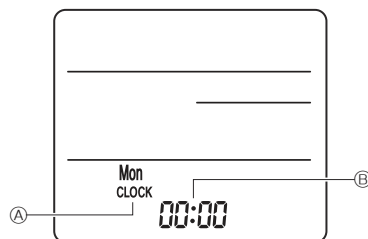

Fig. 7-8
3) Setting (Clock setting) (Fig. 7-8)
- ① Insert batteries or press the **CLOCK** button with something sharp.